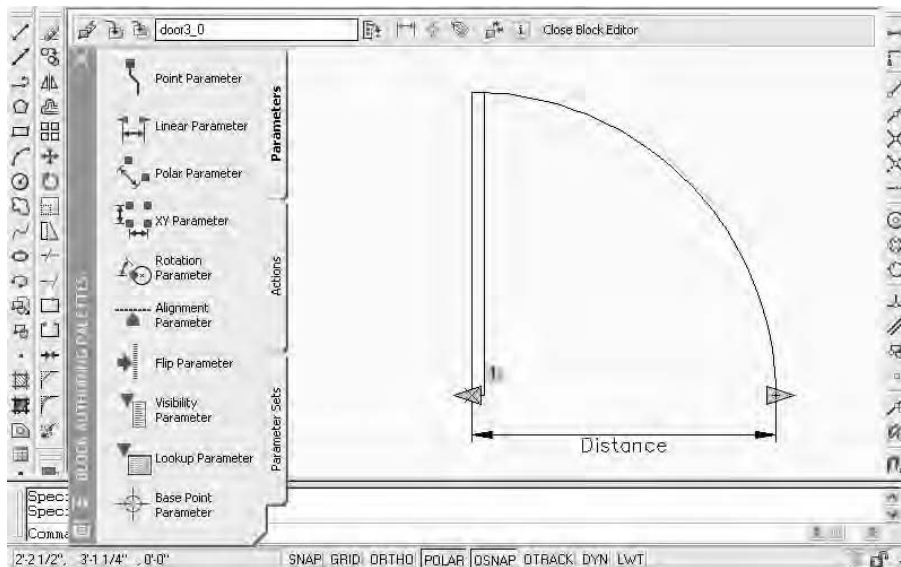

FIGURE C.14: The Linear parameter is placed.
3. Move the cursor down to position the dimension symbol a little below the door block, and then click to place it (see Figure C.14).